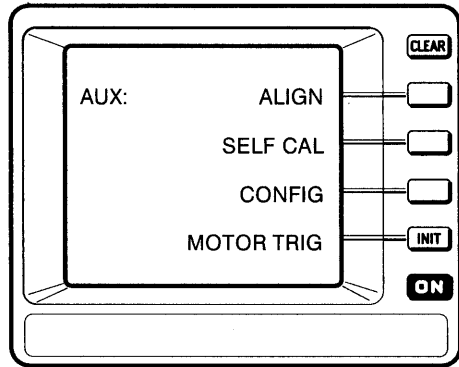

Figure 3-14: The Auxiliary Functions Menu
- Step 1:** Press the **AUX FUNCT** button on the top panel to access the auxiliary functions menu. The display now appears as shown in Figure 3-14.